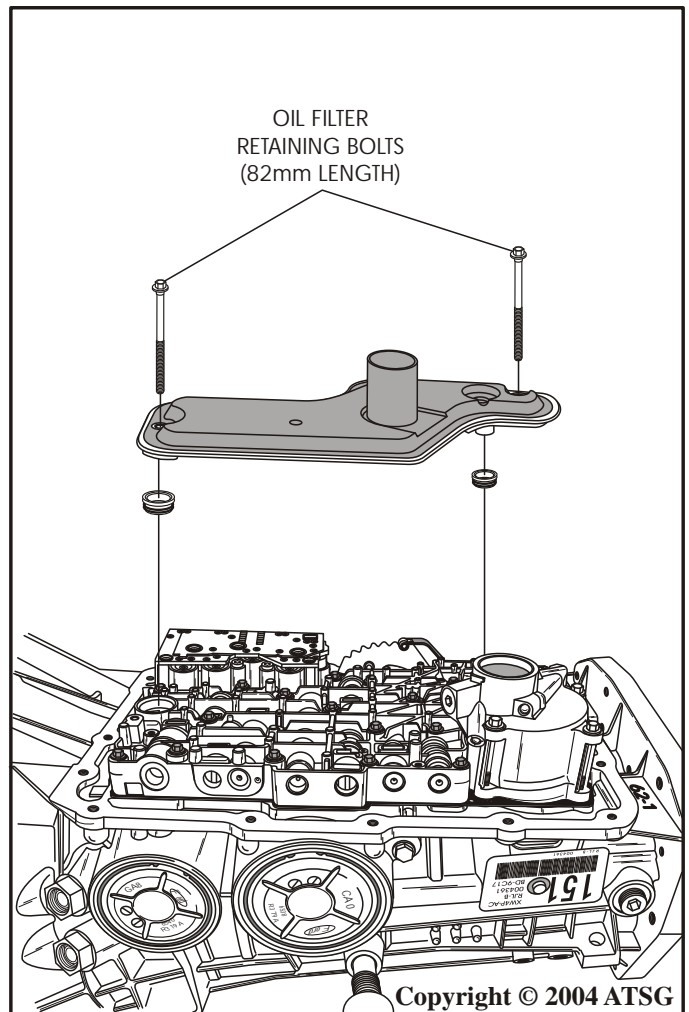

Figure 29
12. Remove the two filter retaining bolts, as shown in Figure 29, and remove and discard the oil filter and seals.